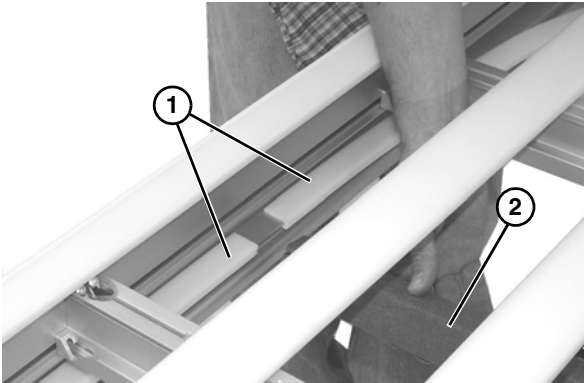

Figure 21
2. Remove lower wear strips (**Figure 21, item 1**), and if necessary, lower belt return (**Figure 21, item 2**) from lower frame assembly.